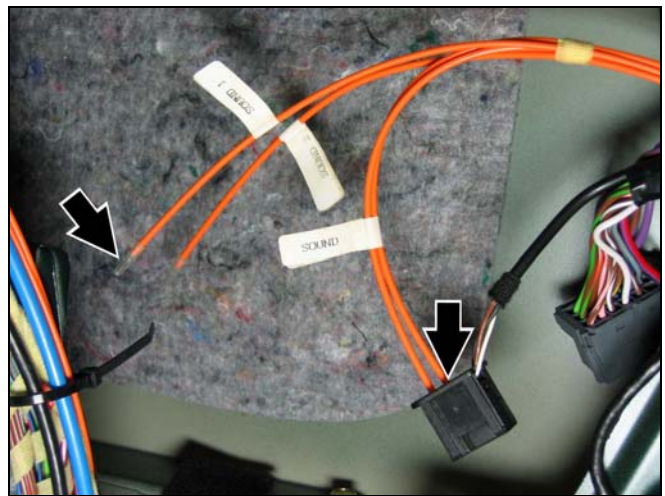

Figure 13
4. At the sound system control module (Figure 13) in the right well of the trunk, configure the MOST ring according to Figure 39.